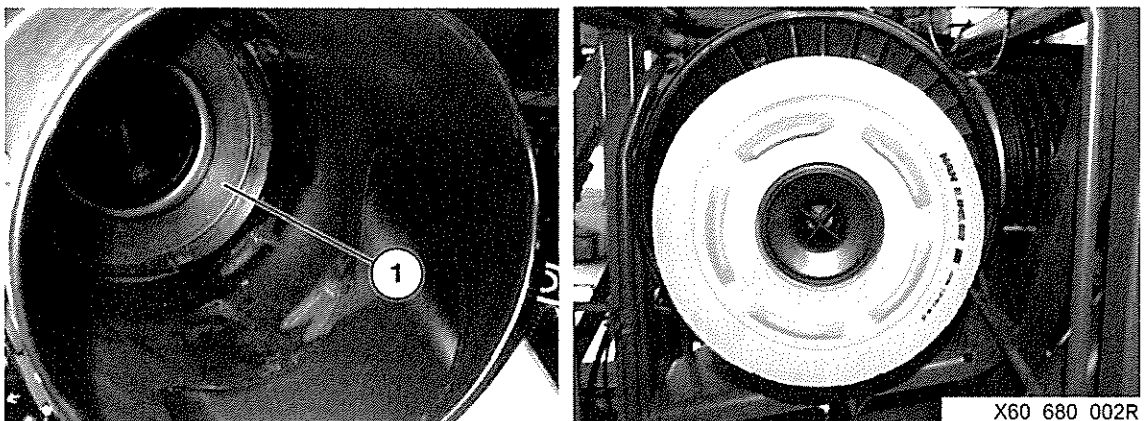

Fig 33 Install the air filter element
80.6 Refer to Fig 33. Install the air filter element in the centre of the filter housing from the left side of the vehicle.